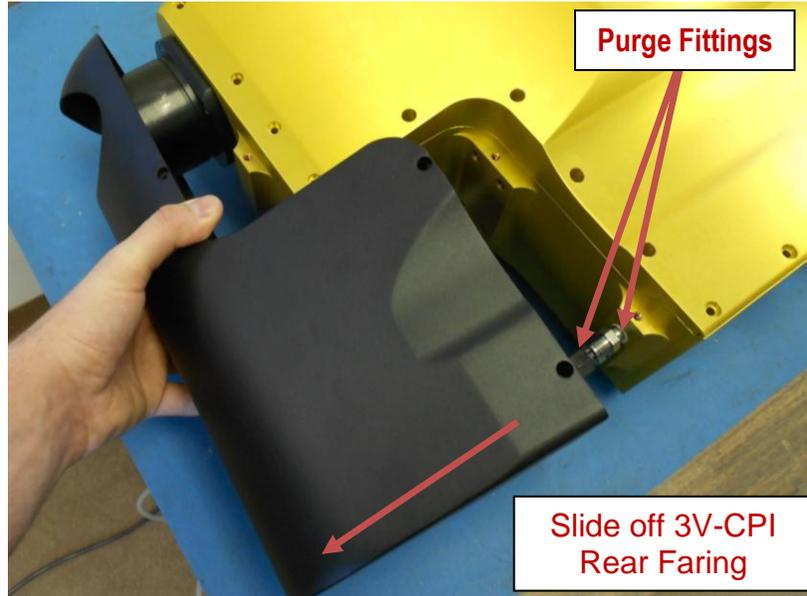

Figure 3.1.2: Sliding the rear fairing off of body, exposing fittings.
- Slide rear fairing off of Hawkeye as in **Figure 3.1.2**.